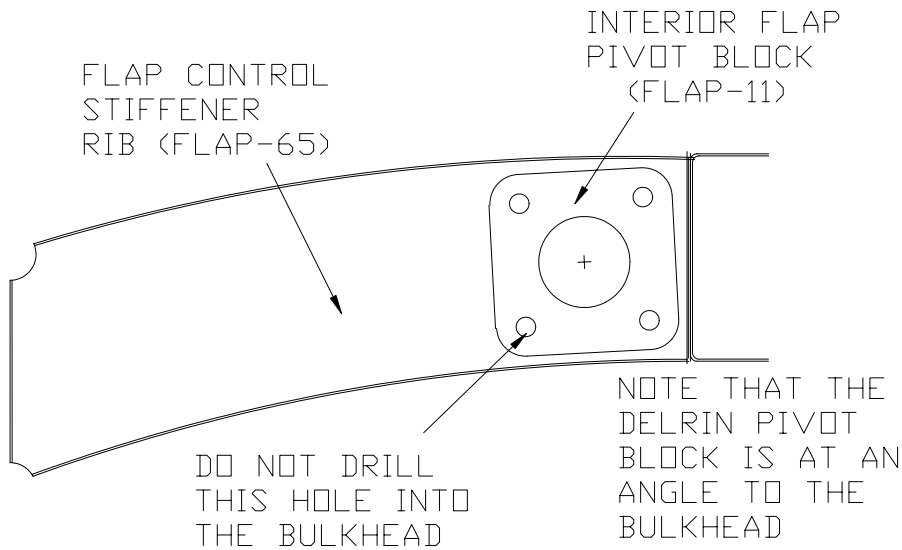

Figure 15.13.4
- 12) Position an Interior Flap Pivot Block over the cut out you just made and drill three bolt holes through the Stiffener Rib using the Block as a drill guide. Figure 15.13.4.